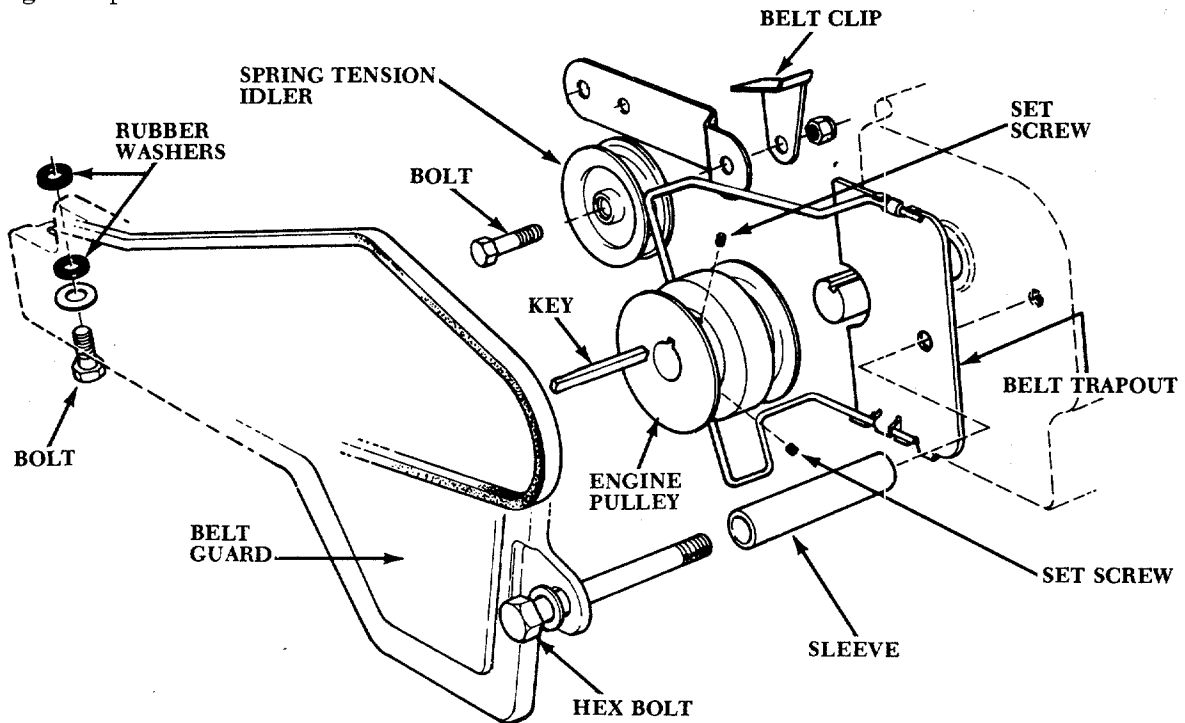

FIG. 1
5. Loosen the bolt holding the spring tension idler and belt clip. Mark position of belt clip. Roll belt off pulley **TOWARDS** the engine. Remove set screws (2) and pull off engine pulley. Refer to Fig. 1. Replace bolt and two rubber washers in the frame.